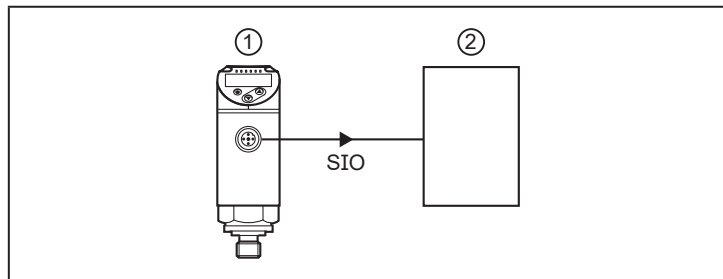

Fig. 4.1: Example of a conventional sensor system before integrating the data splitter
-  The connected sensor / actuator (→ Fig. 4.1) must have IO-Link functionality.